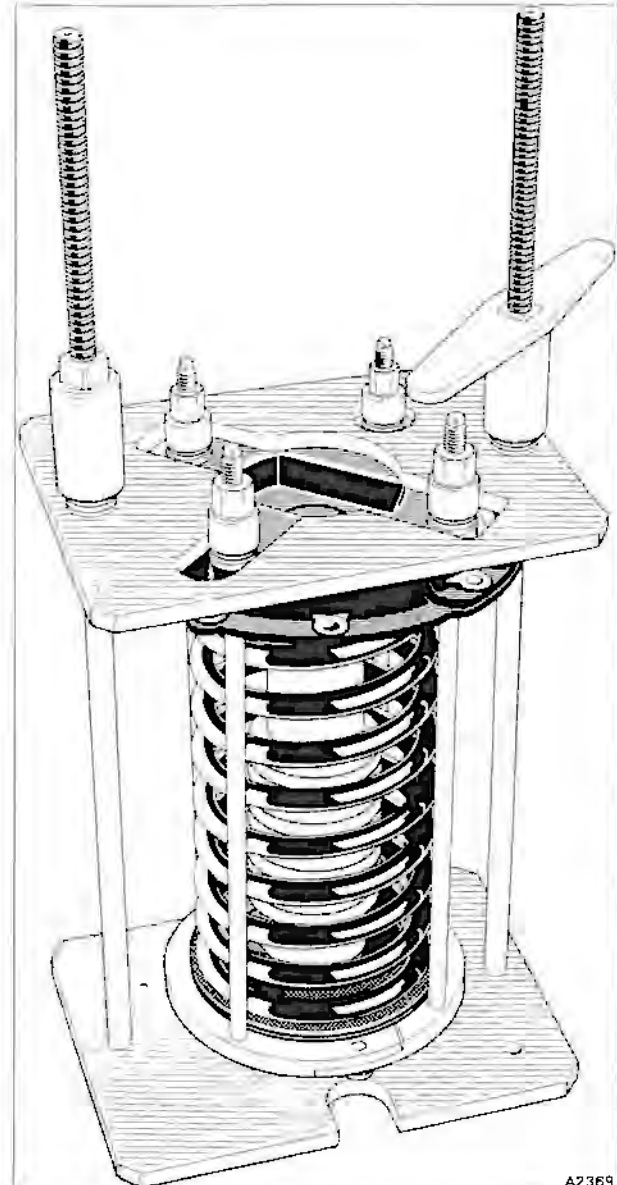

Fig. H4-3 Spring compression tool
Place the complete assembly into spring compression tool RH7909. Fit and secure the top plate of the tool to retain the spring (see fig. H4-3).
4. Place the road spring and its associated components (see fig. H4-3) into spring compression tool RH7909. Compress the spring to the measurement taken on removal.